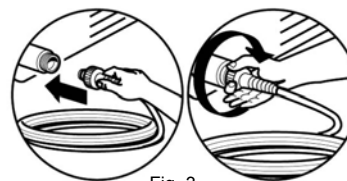

Fig. 3
1. While facing the front side of the unit attach the high pressure hose to the high pressure output connector on the right side of the unit. Twist on tight to avoid leakage. (Fig. 3)